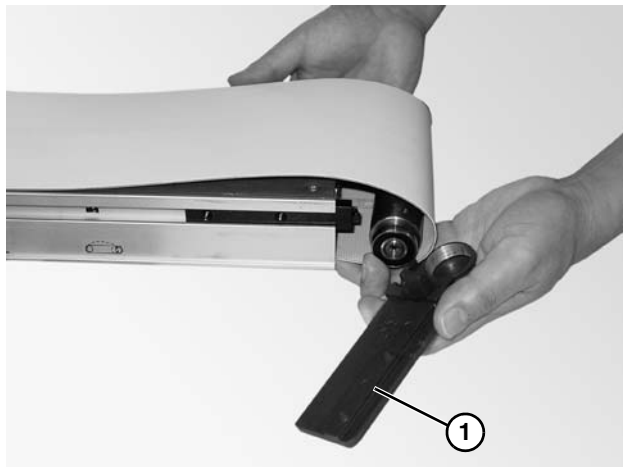

Figure 46
2. Remove the head plate (**Figure 46, item 1**) from the conveyor frame.